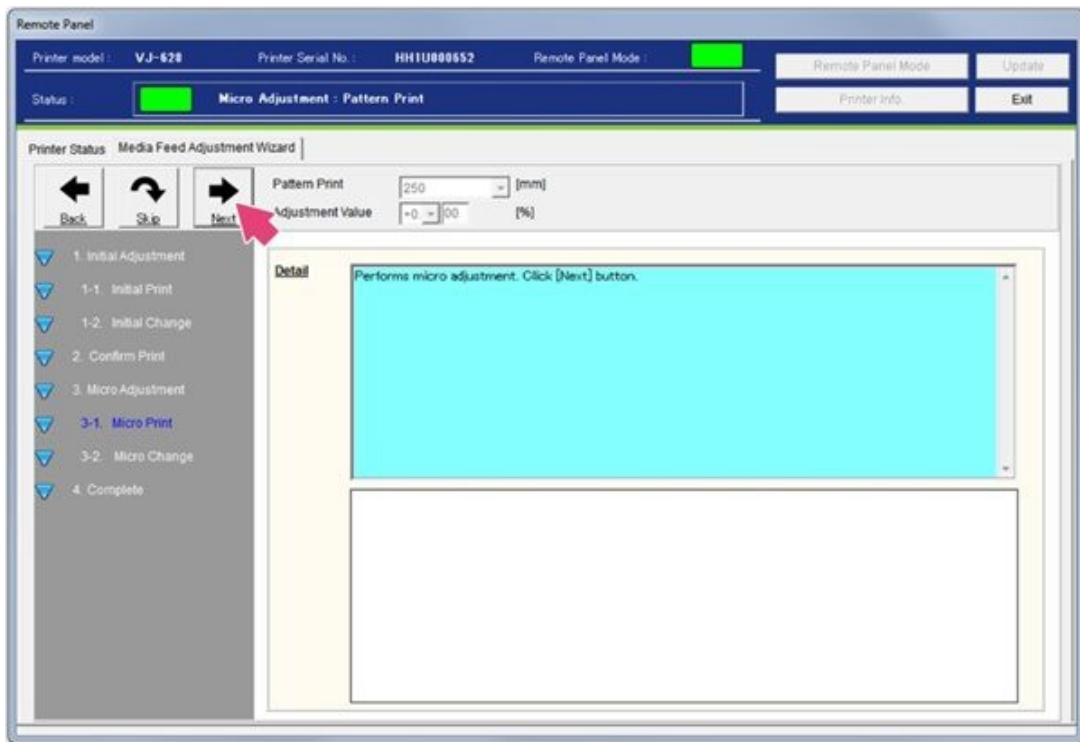

Figure 100
87. Select **Next** to begin the adjustment. See Figure 100.